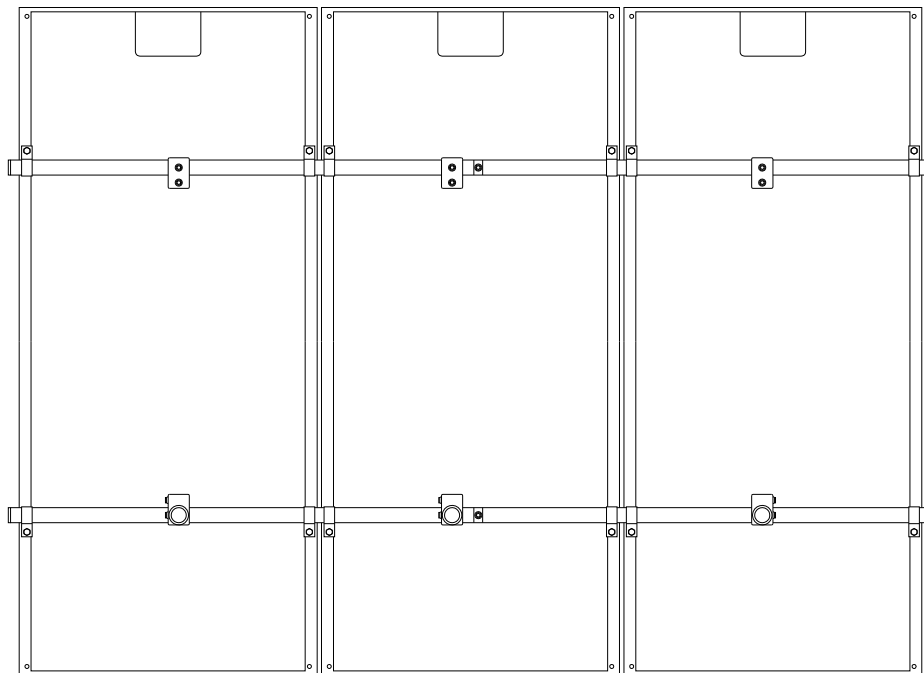

Figure 6.3 : Place tubes across modules back and clip the module clamps over the tubes in the positions shown.
**Upper Sub array Tube** - Slide the Tee clamps and module clamps onto one length of tube. The upper tube is fitted to the junction box end of the modules. Push on two plastic end caps into the end of the tube. Position the clamps as shown in the Figure 6.3 (see also the foundation drawing for distance between clamps) and pinch up using a 1/4" Allen key in the grub screw.